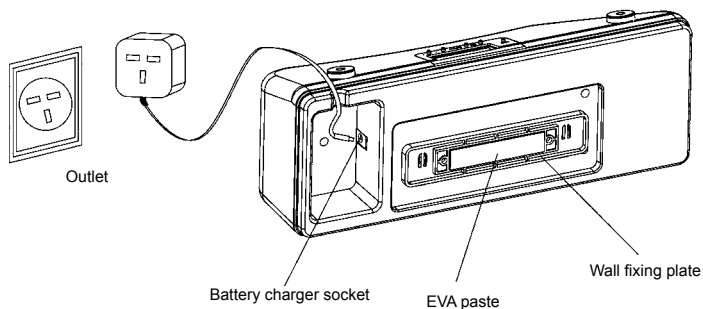
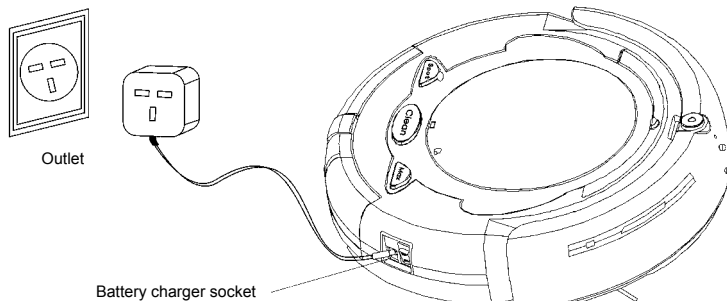

Fig.1
Fig.2
a. The Cleaner may be charged directly by the charger (as the Fig.2 shows) as well as by auto charging base plate (as Fig.1 shows). If the battery is about to be run out, the indicator will turn red and the Cleaner will automatically stop cleaning and seek the charging base plate for charging.
b. For charging with auto charging base plate, the plug of charger should be ensured to be inserted into the DC socket at back of the base plate (as the Fig.1), meanwhile, the screen on the base plate will display the time, etc.
- a. Press the Clock key to adjust the time of clock as per the Fig.1.
1. Screw out two screws as per the Fig.1.
2. Turn the side brush to the extent that the screwdriver can be inserted as per the Fig.2, loosen the screen, take off the old brush and replace with new one.